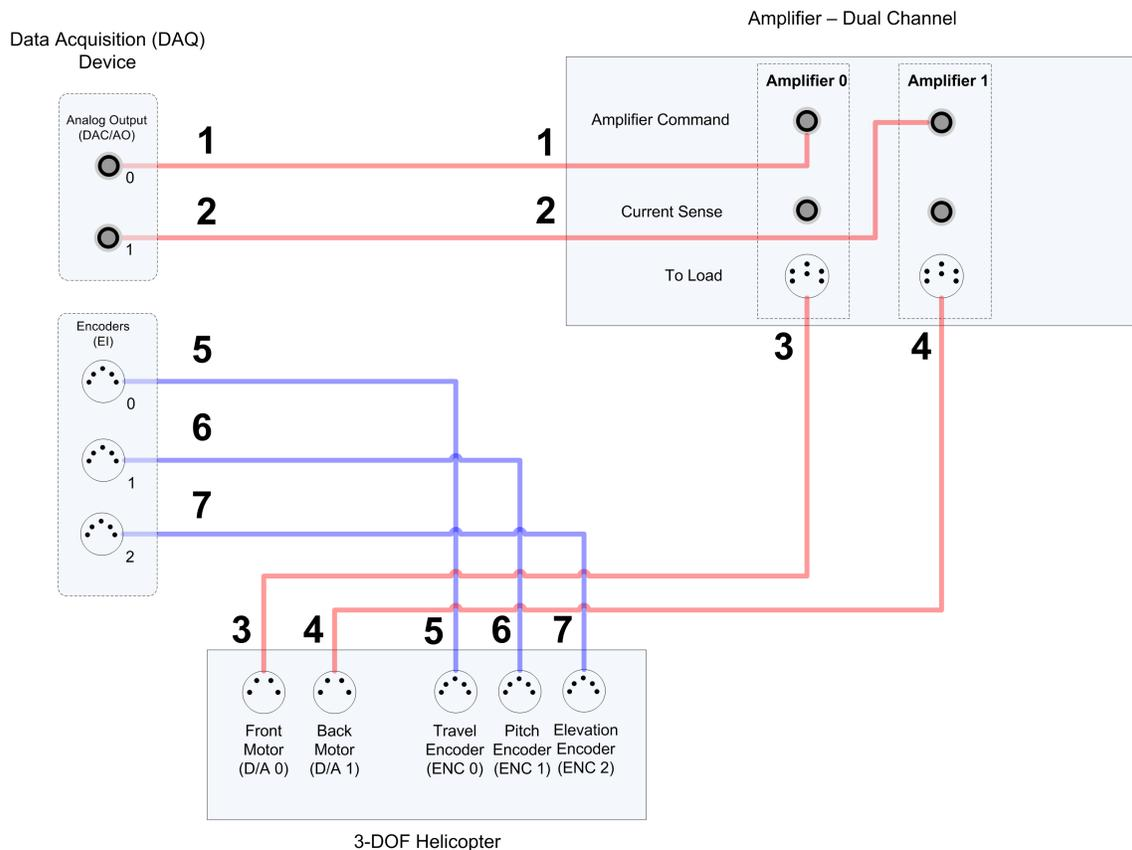

Figure 3.9: 3 DOF Helicopter connection diagram
This section describes the typical cabling connections that are used by default for the Quanser 3 DOF Helicopter system. The travel, pitch, and elevation encoders are connected directly to the data-acquisition board. This provides the position feedback necessary to control the helicopter. The data-acquisition board, i.e., DAQ board, outputs a control voltage that is amplified and drives the front and back motors. Both motors are driven by a power amplifier, e.g. such as the Quanser VoltPAQ-X2 or two VoltPAQ-X1 systems. Figure 3.9 illustrates the wiring between the two-channel data-acquisition device, the 3 DOF Helicopter base, and a two-channel amplifier. These connections are described in detail in Section 3.2.1 and summarized in Table 3.1.
**Note:** Your configuration may be different. For instance, you may have a DAQ with more IOs than the one presented in Figure 3.9 or have two single-channel amplifiers that do not require any E-Stop (in which case you would omit connection).
3. Connect the 2xRCA to 2xRCA cable from the *Analog Output Channel #0* on the terminal board to the Amplifier 0 *Amplifier Command* connector. This is illustrated by connection #1 in Figure 3.9.
4. Connect the 2xRCA to 2xRCA cable from the *Analog Output Channel #1* on the terminal board to the Amplifier 1 *Amplifier Command* connector. This is illustrated by connection #2 in Figure 3.9.
5. Connect a 4-pin-DIN to 6-pin-DIN cable from the Amplifier 0 *To Load* connector to the *Front Motor (D/A 0)* connector on the 3 DOF Helicopter plant. This is illustrated by connection #3 in Figure 3.9.
6. Connect a 4-pin-DIN to 6-pin-DIN cable from the Amplifier 1 *To Load* connector to the *Back Motor (D/A 1)* connector on the 3 DOF Helicopter plant. This is illustrated by connection #4 in Figure 3.9.
7. Connect a 5-pin-stereo-DIN to 5-pin-stereo-DIN cable from the *Encoder 0* connector on the terminal board to the *Travel Encoder (ENC 0)* connector on the 3 DOF Helicopter base. This is illustrated by connection #5 in Figure 3.9.
8. Connect another 5-pin-stereo-DIN to 5-pin-stereo-DIN cable from the *Encoder 1* connector on the terminal board to the *Pitch Encoder (ENC 1)* connector on the 3 DOF Helicopter plant. This is illustrated by connection #6 in Figure 3.9.
9. Connect another 5-pin-stereo-DIN to 5-pin-stereo-DIN cable from the *Encoder 2* connector on the terminal board to the *Elevation Encoder (ENC 2)* connector on the 3 DOF Helicopter plant. This is illustrated by connection #7 in Figure 3.9.
10. Connect the emergency stop switch to the E-Stop connector on the amplifier. This is illustrated by connection #8 in Figure 3.9.